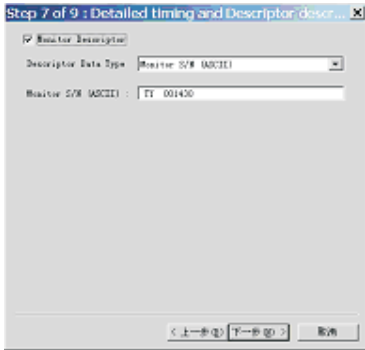

Fig. 19
8. Click Next , bring up Fig. 19.